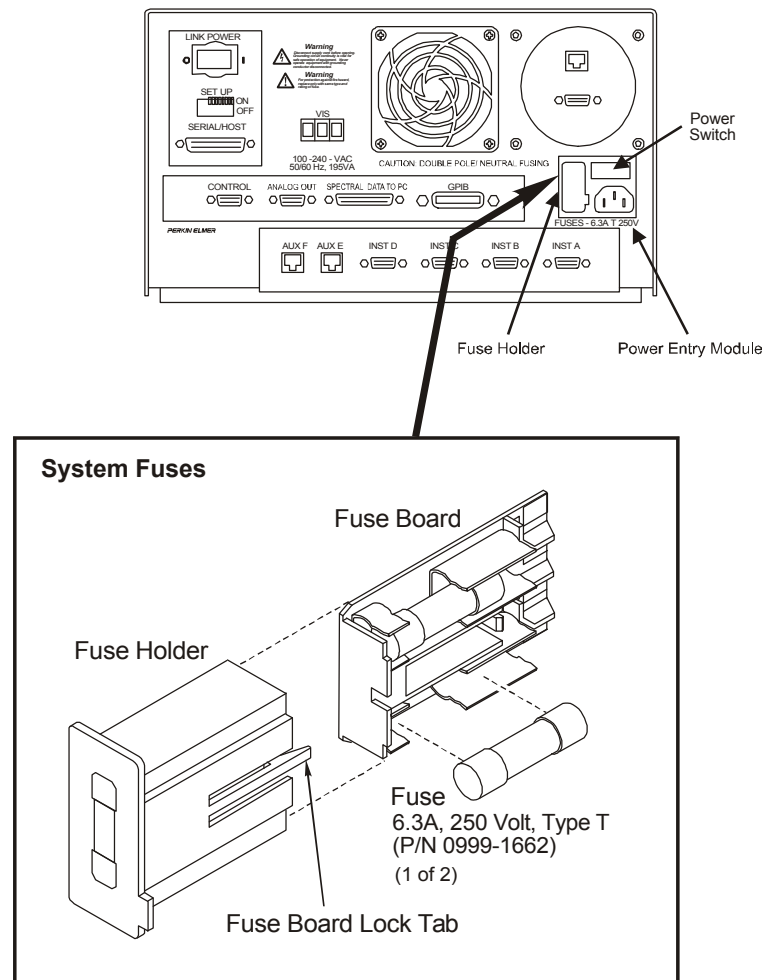

Figure 2-1. Rear panel of the Detector with the system fuses shown
The Diode Array Detector power entry module and system fuses are located at the right of the detector's back panel (see Figure 2-1).
The unit is shipped with two fuses (see Figure 2-1) installed. To replace a fuse, proceed as follows:
2. Refer to Figure 2-1 and remove the fuse holder from power entry module at the back of the detector.